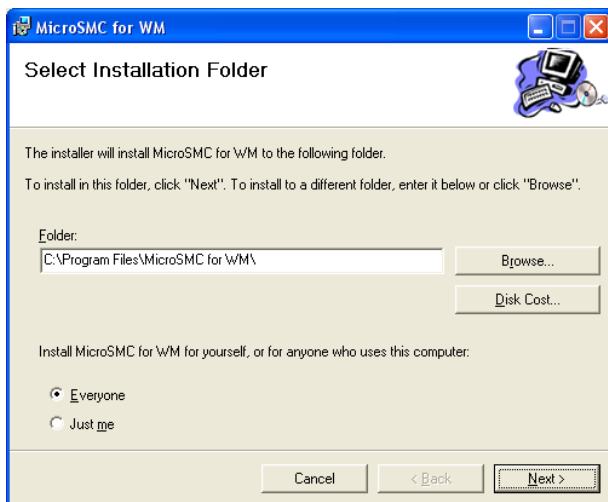

Figure 54. MicroSMC for WM host PC installation 3rd screen
- Select destination folder and press the "Next>" button (see Figure 54).